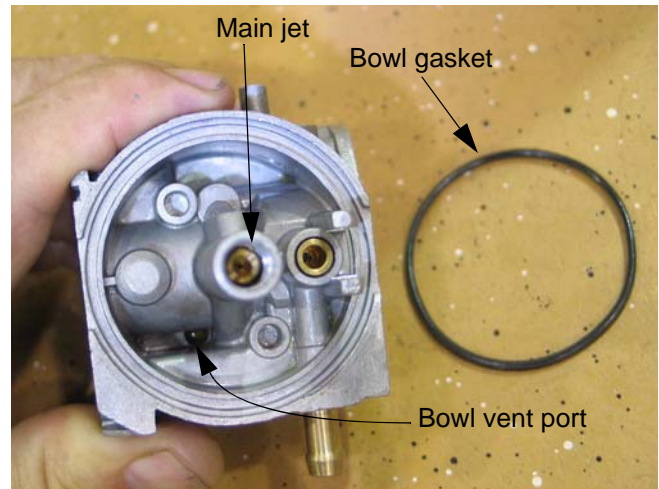

Figure 4.18
6. Remove the main jet using a narrow-shank straight blade screwdriver. See Figure 4.18.